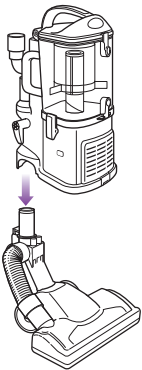

Fig. 8
- 2 Align the tube of the floor nozzle with the tube on the detachable canister and lower until you hear the two pieces click into place. (Fig. 8)
- 1 Separate the detachable canister from the floor nozzle. (See page 8, Fig. 8)